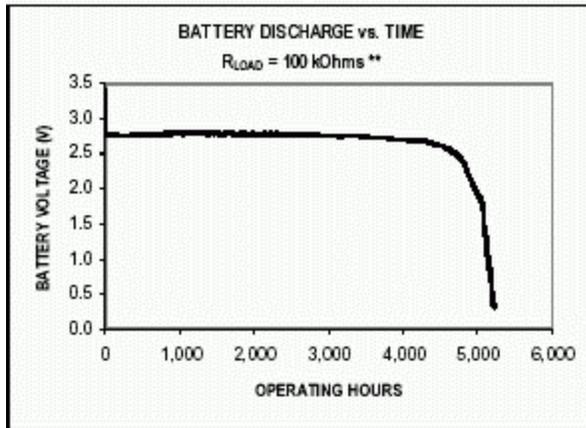

Figure 1. Battery discharge plot.
**Figure 1** shows the typical voltage characteristics observed with a lithium coin-cell battery under a fixed 100kΩ load. Maxim has designed a battery monitoring circuit that utilizes the characteristics of lithium batteries under exposure to a known load to determine if the cell remains a viable power source for battery back-up. As this load exposure also requires consumption of some small amount of the battery